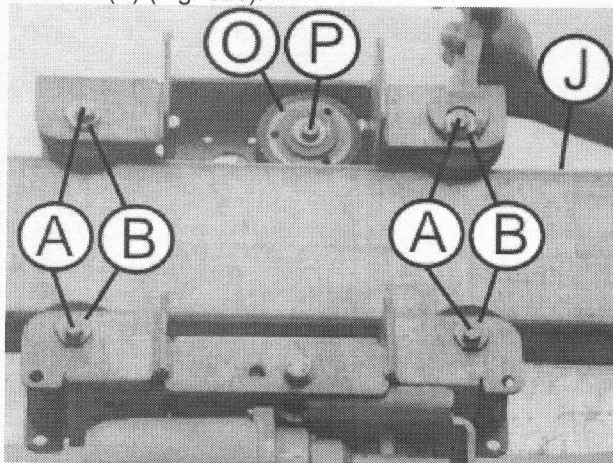

Fig. 026
3. Loosen the nuts of the 4 roller axle (A) a little and by turning the driving roller (O) disengage the cam (B) (Fig. 026).
4. Unscrew retaining screw (P) of the driving roller and finally screw it back again without washer (Fig. 026)
**Note:** The upper running surface (J) of the crosshead must be free of grease (Fig. 026).